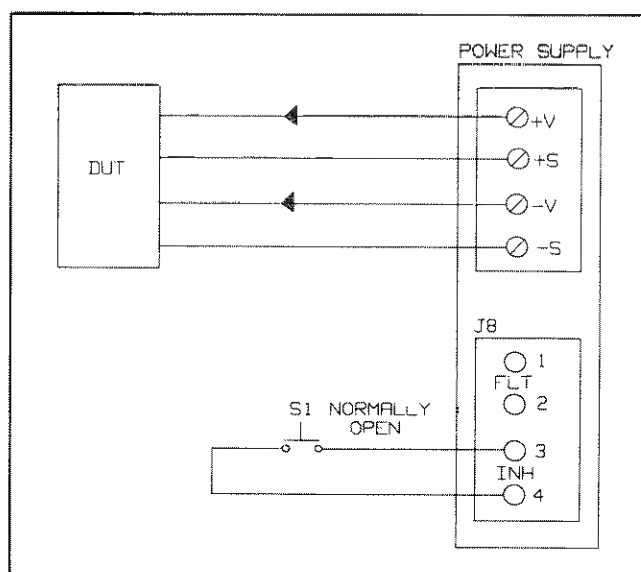

Figure 3-17. INH Example
**3-223** In Figure 3-17, an externally, normally open switch (S1) is mounted on a hinged protection hood which covers the power supply output terminals. The terminals of the switch are connected to the INH input line. When the hood is lifted, the switch closes and the following simultaneous actions are taken by the power supply:
2. The RI bit in the status and astatus registers is set true (1).
3. The FLT line goes true (1) (provided the RI bit in the unmasked register has been set true (1)).
4. If the RI bit in the unmasked register has been set true (1), then the RI bit in the fault register will be set true (1), and FAU bit in the serial poll register will be set true (1).